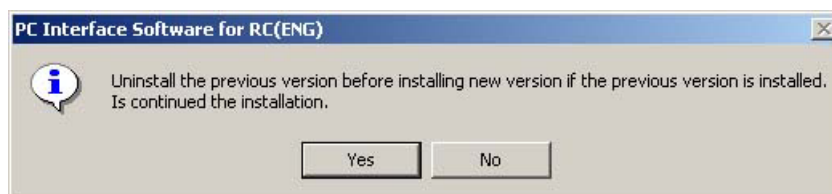

Fig. 1.2 Previous version install check window
- [3] A previous version install check window (Fig. 1.2) is displayed.